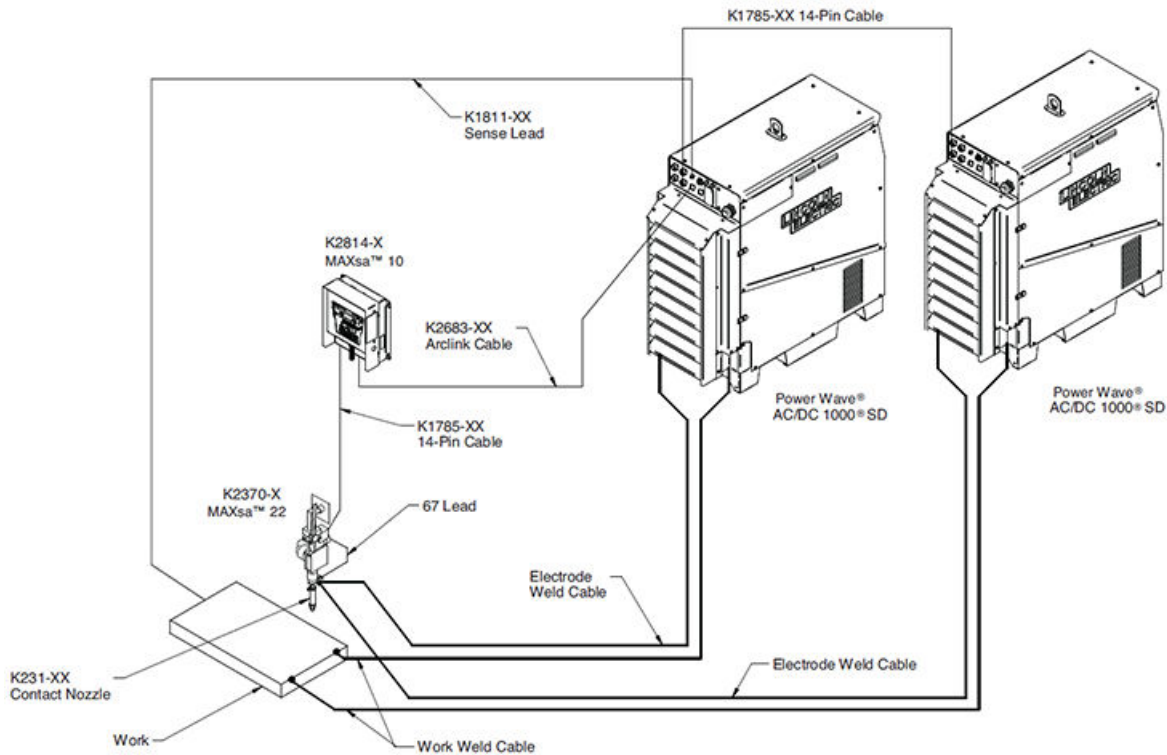

**Figure 7 : TANDEM ARC CONNECTION DIAGRAM**
**TANDEM ARC (2-ARC) SYSTEM CHECKLIST (See Figure 7 : TANDEM ARC CONNECTION DIAGRAM on page A-14 )**
7. Install Electrode Sense Lead (67) at each feeder and the Work Sense Lead (21) from the Lead POWER WAVE AC/DC 1000 SD Master per guidelines.